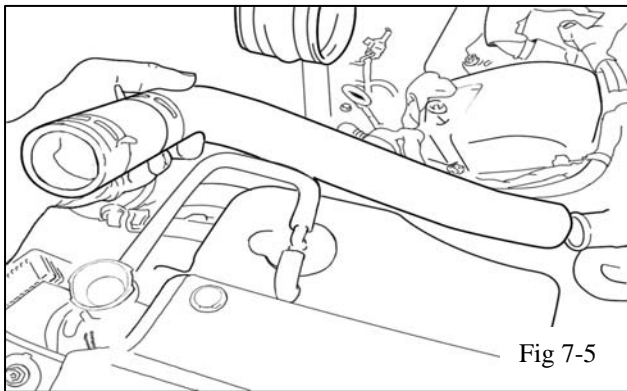

Fig 7-5
- (d) Remove the top radiator hose (Fig 7-5). Save for reuse.
- (g) Disconnect the coolant overflow tube from the radiator (Fig 7-5). If the vehicle has an oil cooler, it will be necessary to remove a clip holding the fluid lines to the shroud.